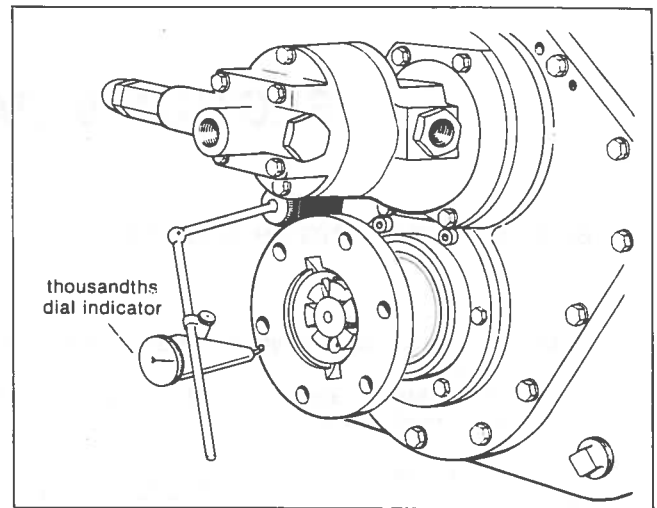

Fig. 38. Checking Output Coupling Mounting Face For Trueness.
14. Check for trueness of output coupling mounting face by mounting a thousandths dial indicator as shown in figure 38. Rotate coupling. Face deviation must not exceed .003".